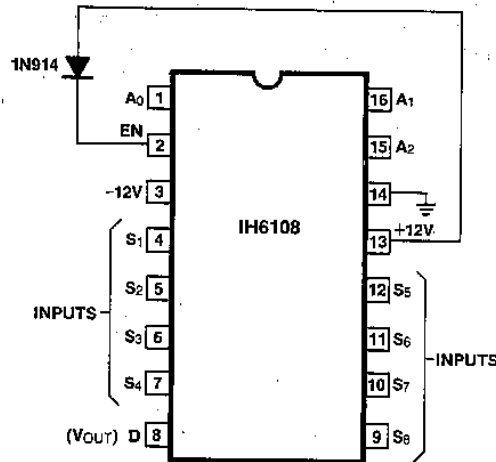

Figure 6. IH6108 Connection Diagram for less than $\pm 15V$ Supply Operation.
Caution must be taken to ensure that the enable (EN) voltage is at least 0.7V below V^+ at all times. If this is not done the Address input strobing levels will not function properly. This may be achieved quite simply by connecting EN (pin 2) to V^+ (pin 13) via a silicon diode as shown in Figure 6. When using this type of configuration, a further requirement must be met: the strobe levels at A0 and A1 must be within 2.5V of the EN
voltage in order to define a binary "1" state. For the case shown in Figure 6 the EN voltage is 11.3V which means that logic high at A0 and A1 is $+8.8V$ (logic low continues to be $= 0.8V$). In this configuration the IH6108 cannot be driven by TTL (+5V) or CMOS (+5V) logic. It can be driven by TTL open collector logic or CMOS logic with +12V supplies.